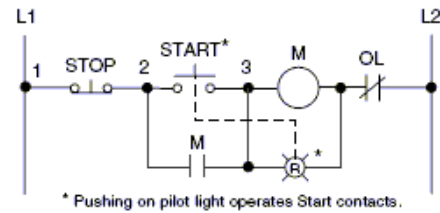

Fig. 20 Illuminated Push Button Indicator.
8. Illuminated Push Button Indicator (Motor is running - Fig.20)